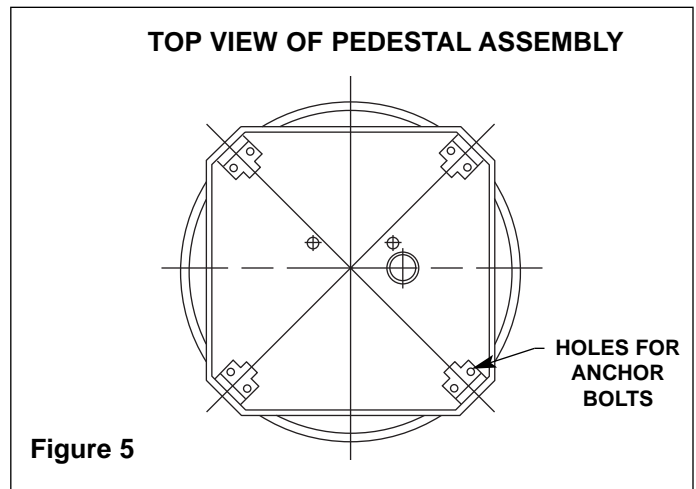
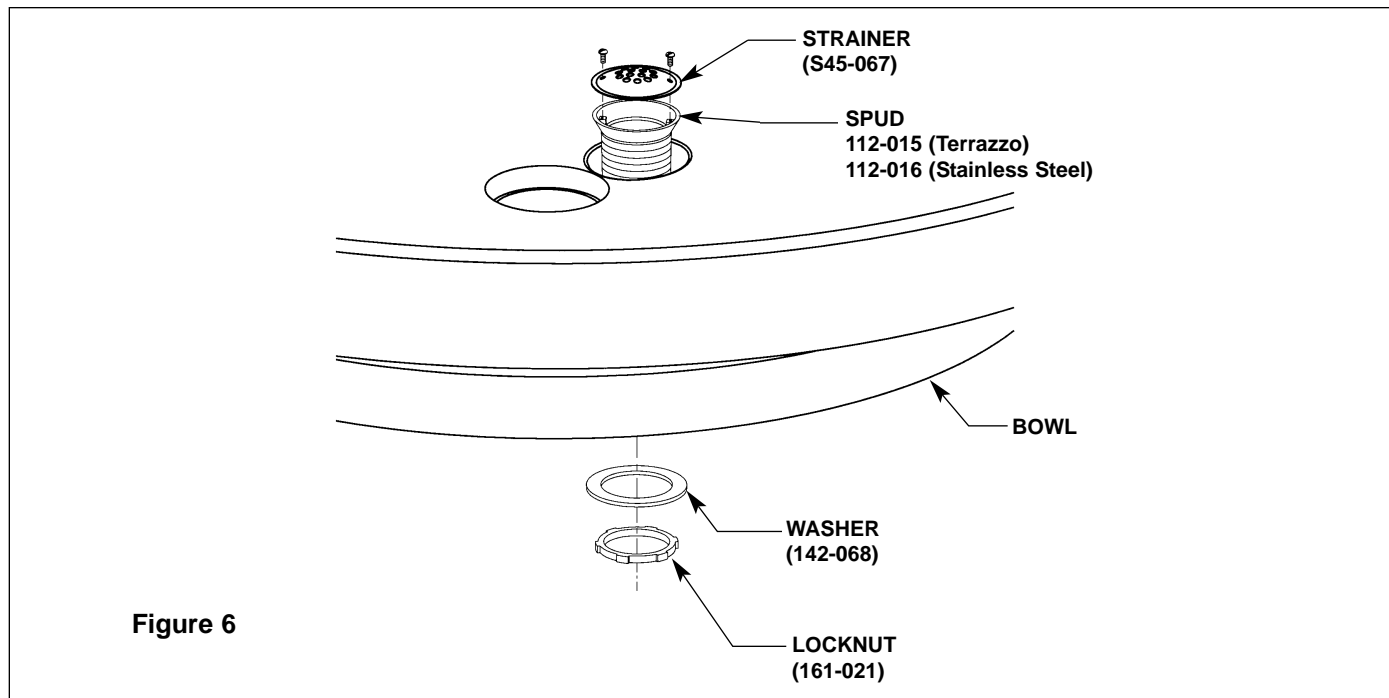

Figure 5
Figure 6
3. Position the bowl and pedestal assembly so that the bowl drain is in line with the trap or drain line (see Figure 5 at right and figure 6 on page 11).
4. Screw the drain spud part of the way into the drain to ensure correct alignment (see Figure 6 on page 11).
1. Place the pedestal assembly as shown in Figure 5.
3. Screw the drain spud part way into the drain to ensure correct alignment (see Figure 6).
1. Secure drain spud with lock nut and washers as shown in Figure 6.